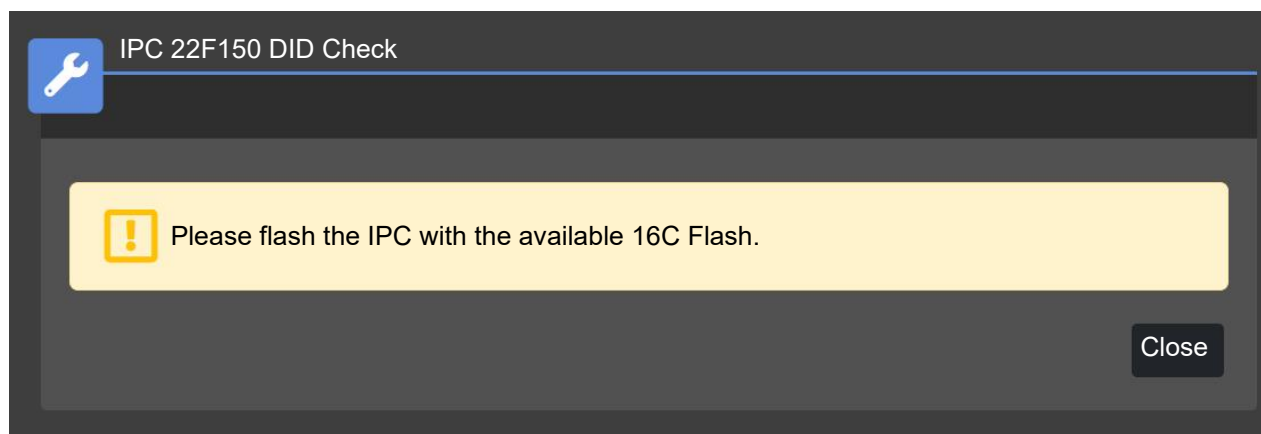

Figure 2 – Flash Required Message
- Flash Required Message (Figure 2).
12. If presented with the “**Please flash the IPC with the available 16C Flash**” message as shown in (Figure 2). Proceed to the **Service Procedure** and Reprogram Instrument Panel Cluster (IPC).